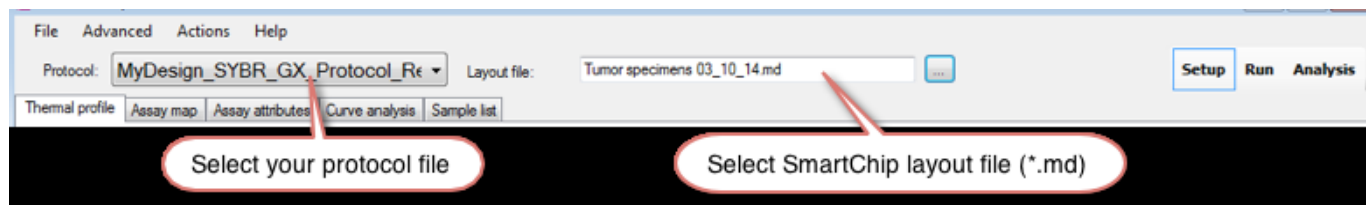

Figure 14. Selecting a saved protocol from a previous experiment for your SmartChip MyDesign Chip.
- Select an appropriate saved protocol from a previous experiment (Figure 14).